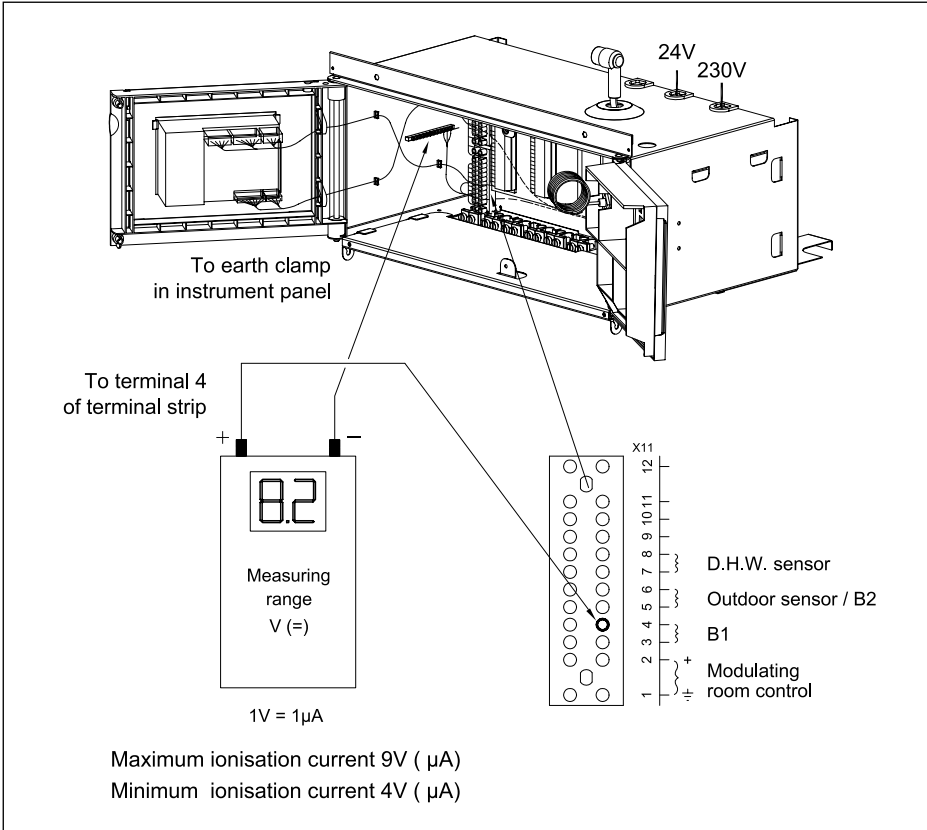

Fig. 22 Ionisation measurement
- 18.8. Check the ionisation level, measurement in Volts between terminal 4 and earth, minimum 4 μA (1 V dc \equiv 1 μA dc, see Fig. 22).